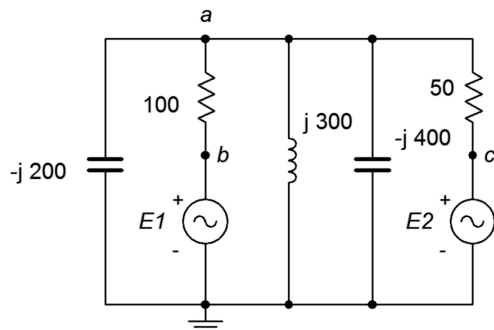

Figure 6.6
11. Use mesh analysis to find the current through the $-j200 \text{ }\Omega$ capacitor in the circuit of Figure 6.6. $E1 = 18\angle 0^\circ$, $E2 = 12\angle 90^\circ$.
12. Given the circuit in Figure 6.6, use mesh analysis to determine v_{ac} . $E1 = 1\angle 0^\circ$, $E2 = 500E-3\angle 0^\circ$.